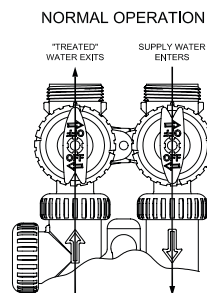

FIGURE 3
- Place the bypass valve in the NORMAL OPERATION position. (Figure 3)